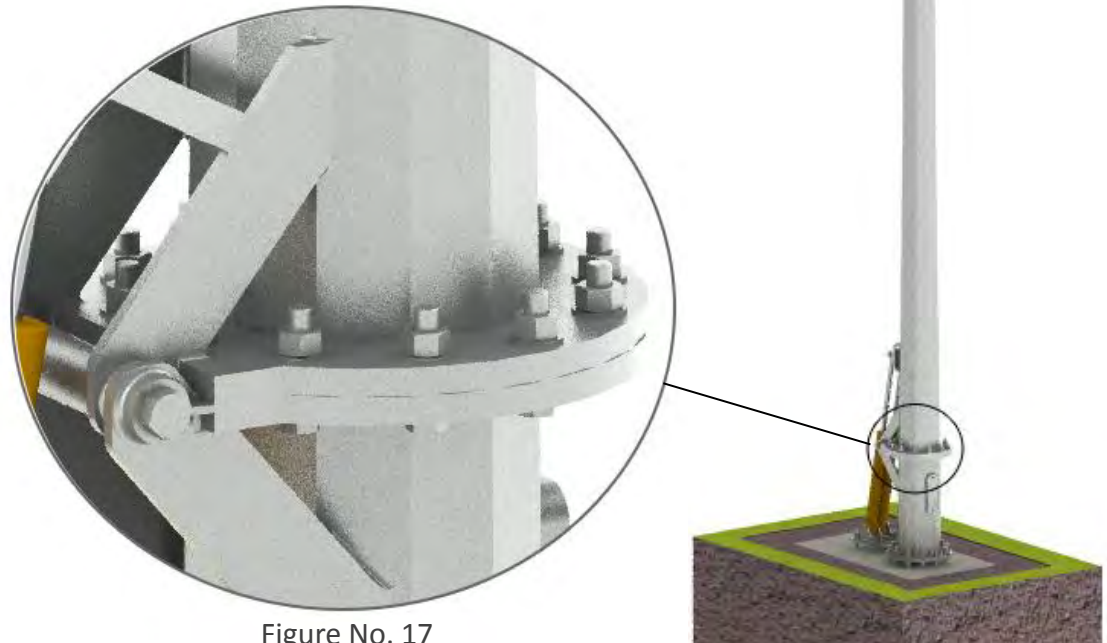

Figure No. 17
- C. Bring the pole to a slow controlled stop and bolt pole section A the base pedestal with M33 bolts, nuts and washers. (Figure No. 17)